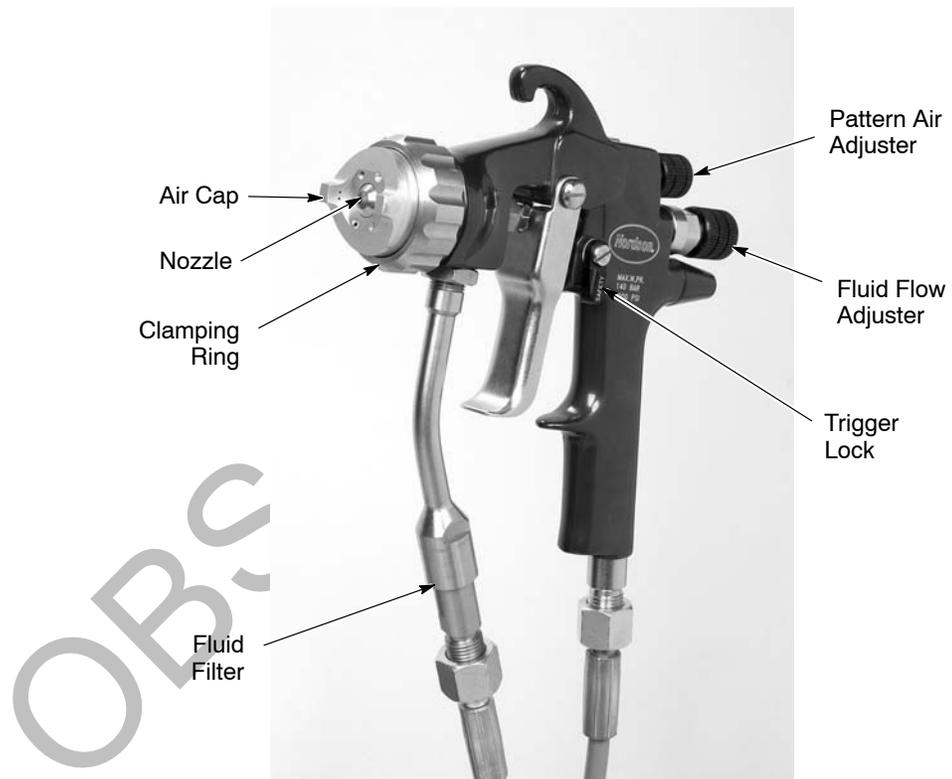

Figure 2 Spray Gun Features (Standard Air Cap and Nozzle Shown)
4. See Figure 2. Adjust the fluid flow and fan pattern air with the adjuster knobs to achieve the desired fan pattern.